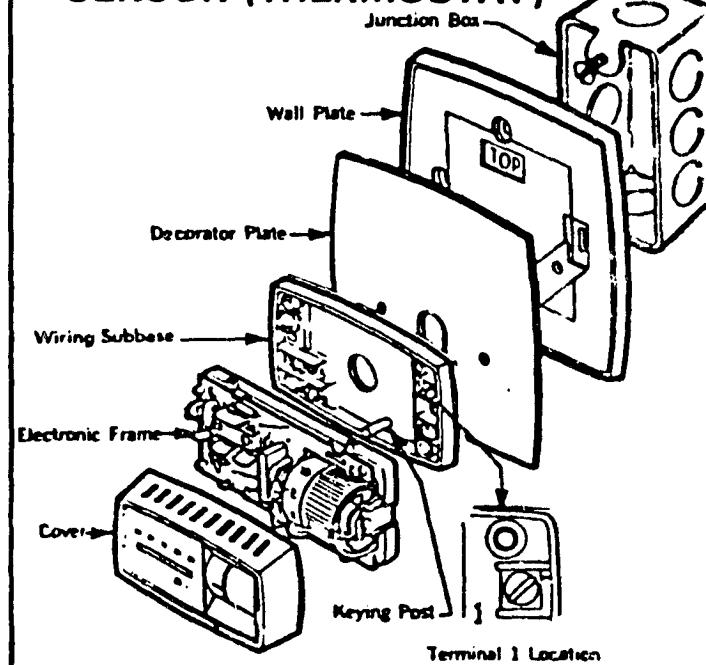

FIGURE 18
- outlet box. Wall plate, decorator plate, wiring subbase, electrical frame and cover make up the sensor assembly. See Figure 18.
- 2 - Do not locate room sensor on an exterior wall, in an entryway, or in direct sunlight. See Figure 18.
- 3 - Make certain room sensor or sensors are located where they sample air in the occupied space for a particular zone, however, direct impingement by discharged air upon the room sensor should be avoided or minimized. See Figure 18.